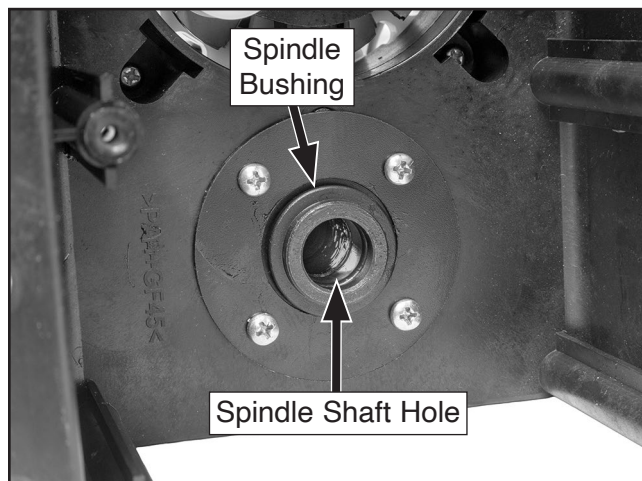

Figure 47. Spindle bushing installed around spindle shaft hole.
9. Ensure spindle bushing shown in **Figure 47** is in place, then insert base of spindle shaft back into hole, but do not attach assembly.